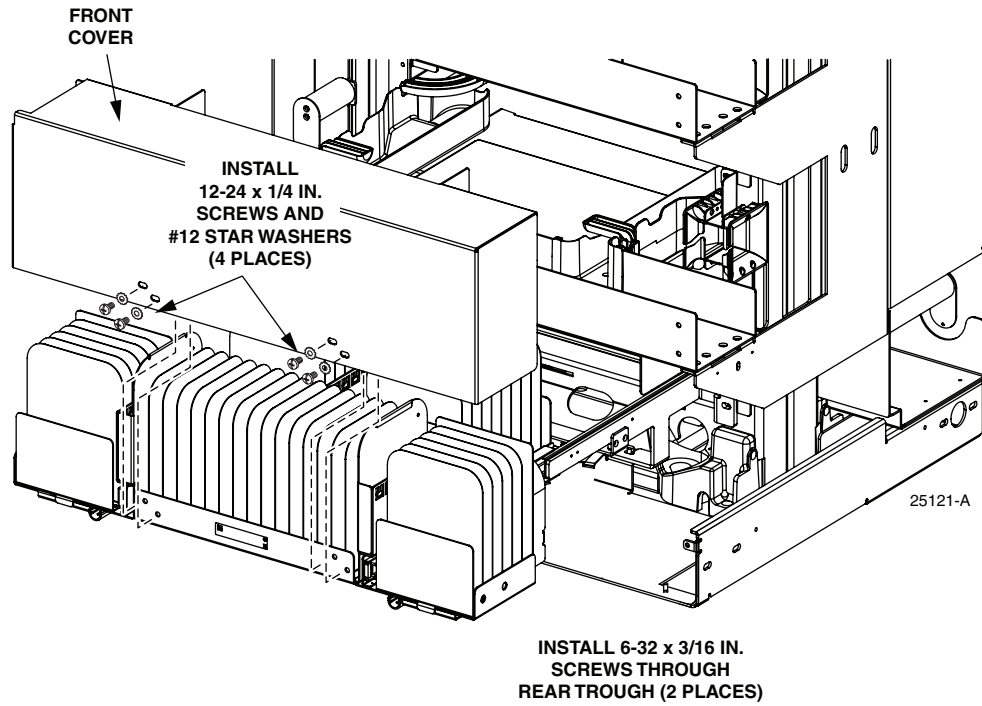
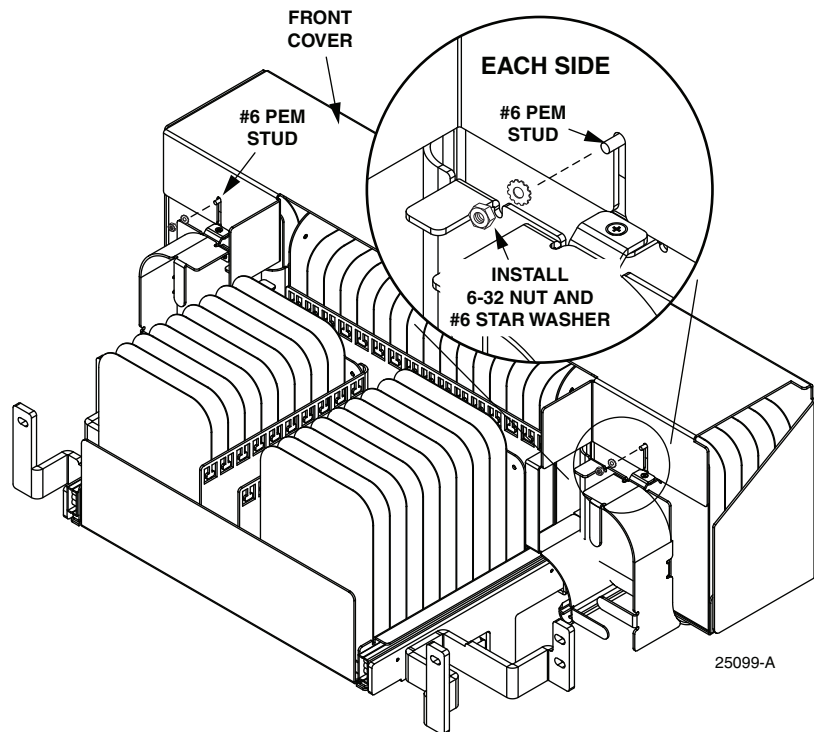

Figure 11. Securing Front Side of Front Cover
Figure 12. Securing Rear Side of Front Cover
- a. Lower the front cover into place on the splice chassis as shown in Figure 11, while positioning it on the threaded studs shown in Figure 12.
- b. Secure the front side of the front cover to the front side of the chassis, as shown in Figure 11, using 12-24 x 1/4 inch screws and #12 star washers (four places). Tighten to 18 inch pounds (2.0 Newton meters).
- c. Secure the rear side of the front cover as shown in Figure 12 using 6-32 nuts and #6 star washers (two places). Tighten to 9 inch pounds (1.0 Newton meters).